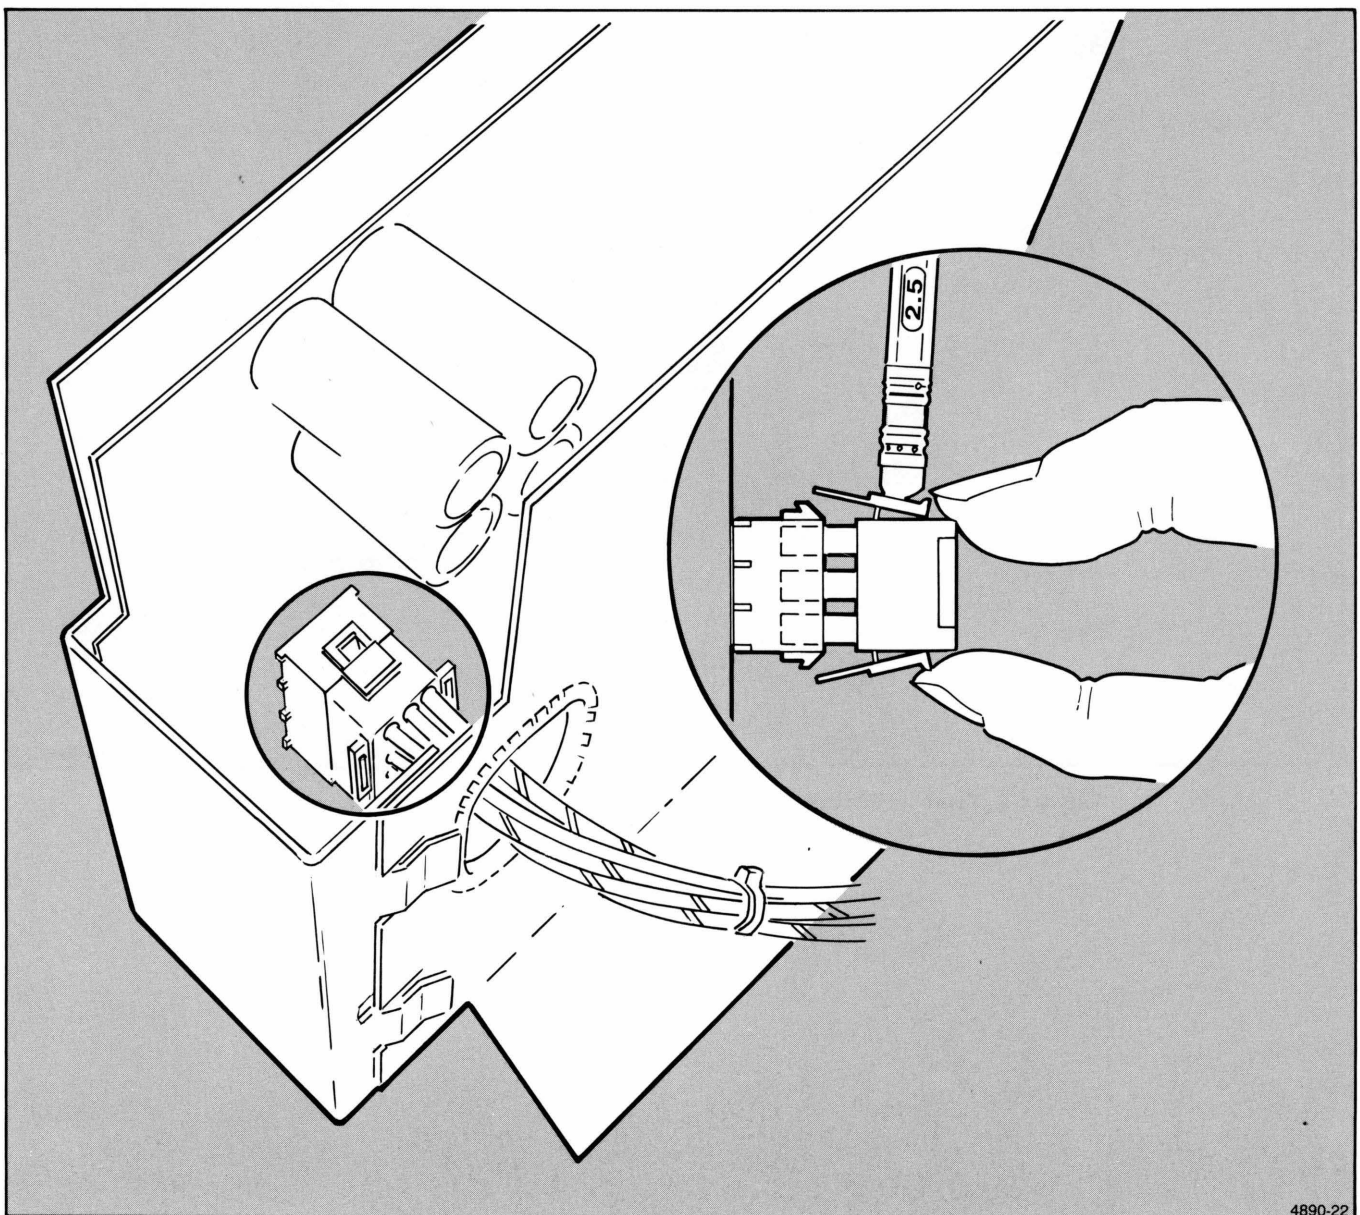

Figure 6-3. Unplugging Upper Cable From Power Supply.
2. Unplug the nine-conductor square connector at J2 on the Power Supply board. Refer to Figure 6-3 while reading this procedure: